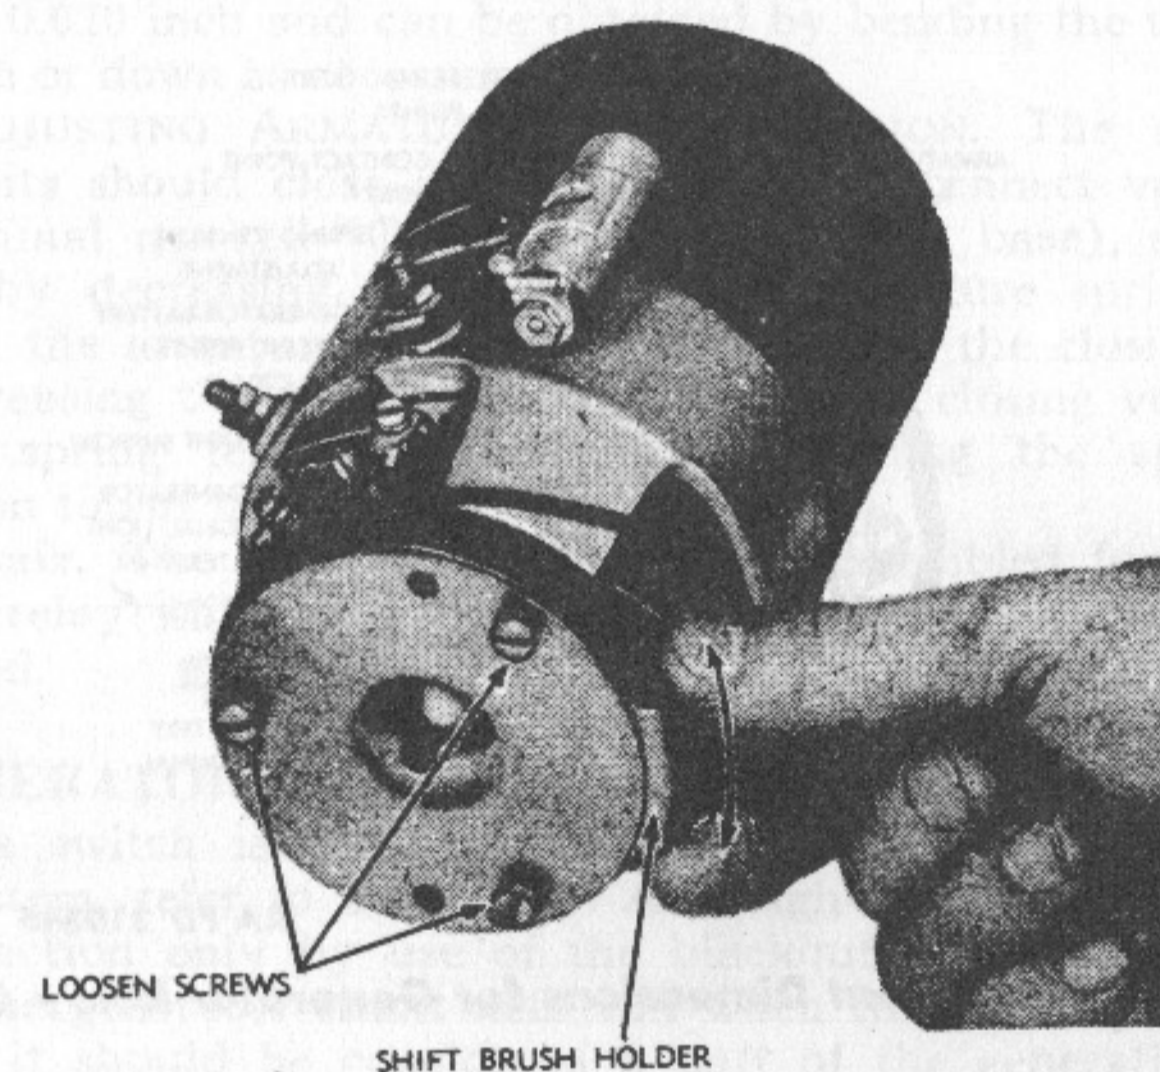

Figure 78—Shifting Regulating Brush to Adjust Current Output of Generator
(1) REGULATE AT 2,500 REVOLUTIONS PER MINUTE. With generator quite hot, shift the regulating brush to obtain a four ampere reading (operating on regulating coil only, fig. 78). Connect a jumper